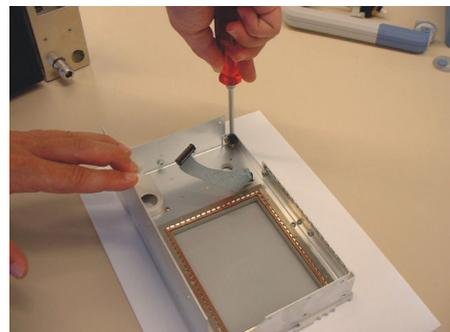

Figure 1-16
10. Undo 6 fastening screws on front panel SM300 (see Figure 1-16).